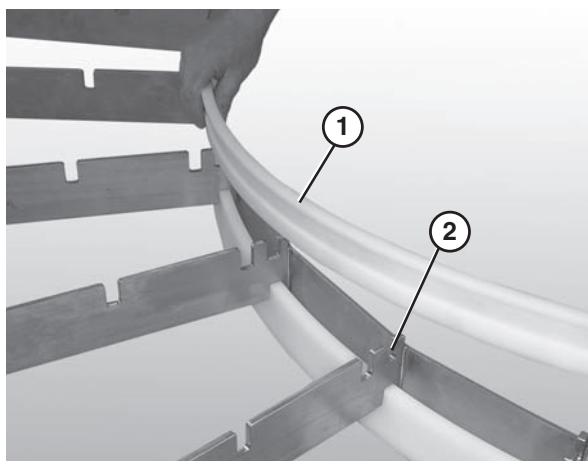

Figure 33
1. Insert inside curve top wear strip (Figure 33, item 1) into the innermost slot (Figure 33, item 2) on the inside of the frame.